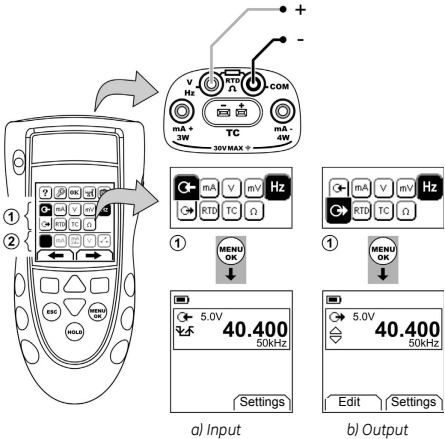

Figure 6: Example configuration - To measure/supply Hz or Pulses
- 1. Connect the instrument (Figure 6) and, if necessary, adjust the *Set Up* (Table 1).